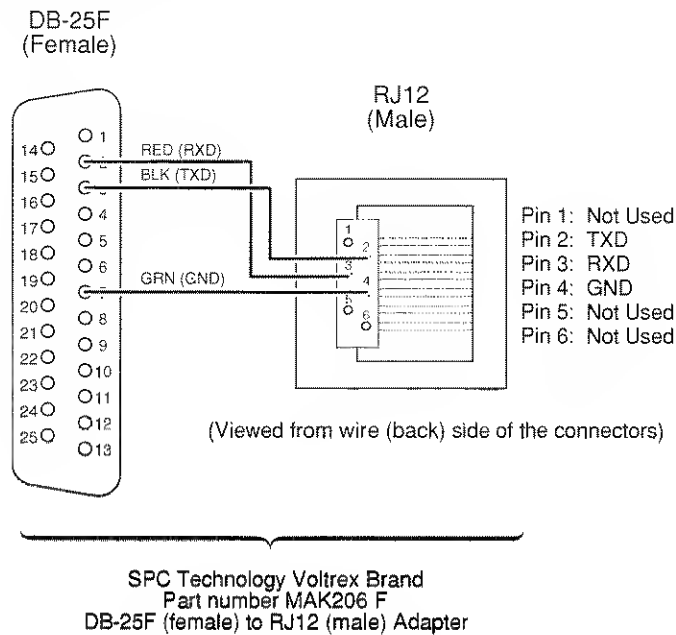

Figure 3-3. .Wiring the RJ12/DB25 Adapter (1 of 2)
- 2 Adapter kits like the Voltrex MAK206F usually include a pre-wired RJ12 modular receptacle, a DB25F connector, and the adapter body, or wiring shroud. Wire the RJ12 receptacle to the DB25F connector according to the diagrams in Figure 3-3, and then assemble the adapter according to the instructions included in the kit.